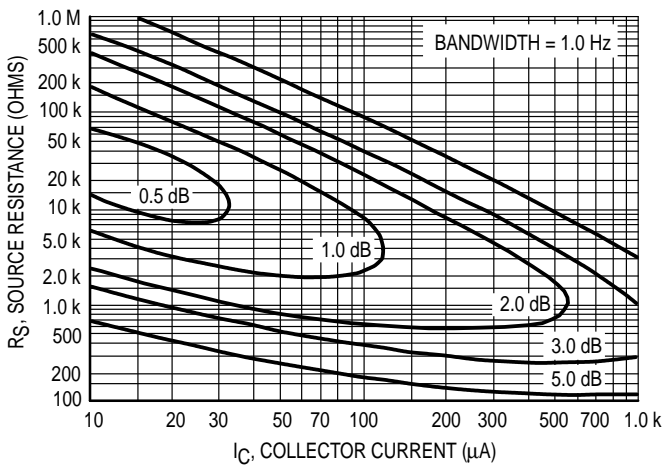

Figure 3. Narrow Band, 100 Hz
- $e_n$  = Noise Voltage of the Transistor referred to the input. (Figure 3)